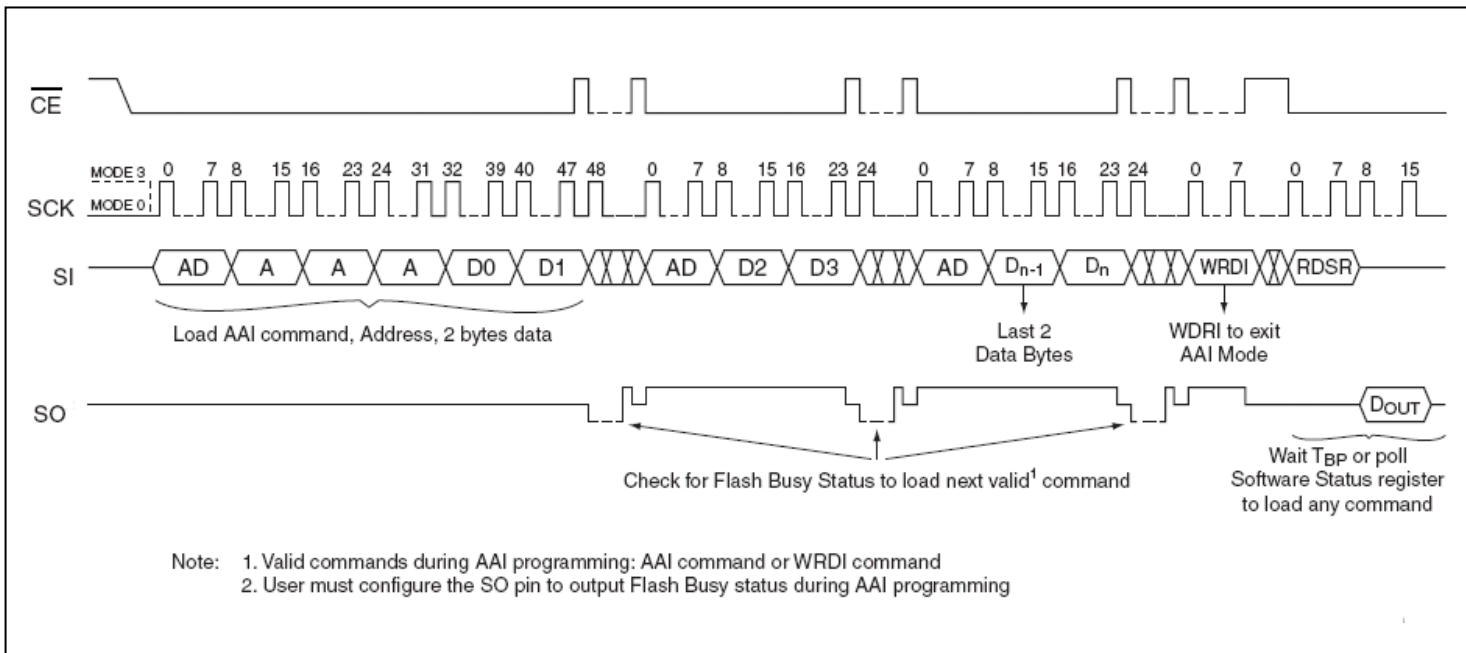
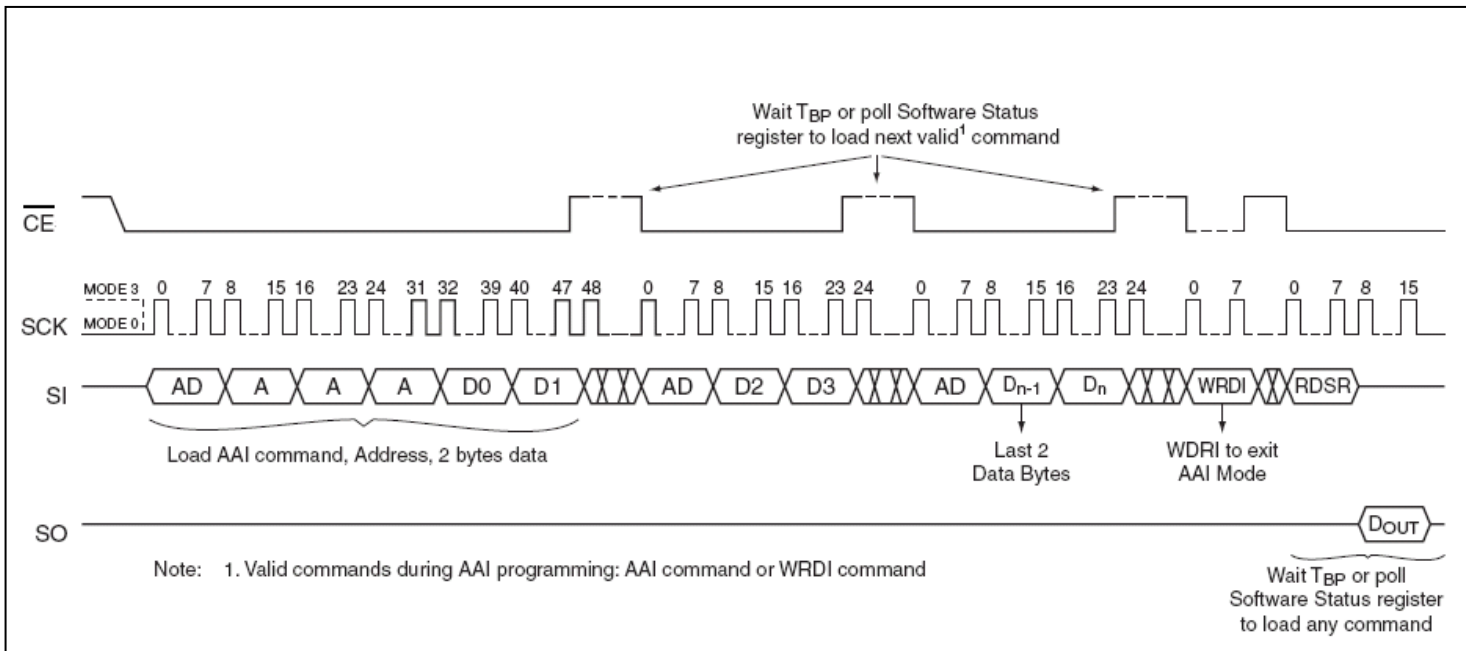

Figure 10: AAI Word Program Sequence with Hardware End of Write Detection
Figure 11: AAI Word Program Sequence with Software End of Write Detection
7) to LSB (bit 0). The first byte of data (D0) will be programmed into the initial address [A₂₃-A₁] with A₀=0; the second byte of data (D1) will be programmed into the initial address [A₂₃-A₁] with A₀=1. \overline{CE} must be driven high before the AAI WORD program instruction is executed. The user must check the BUSY status before entering the next valid command. Once the device indicates it is no longer busy, data for next two sequential addresses may be programmed and so on. When the last desired byte had been entered, check the busy status using the hardware method or the RDSR instruction and execute the WRDI instruction, to terminate AAI. User must check BUSY status after WRDI to determine if the device is ready for any command. Please refer to Figure 10 and Figure 11.